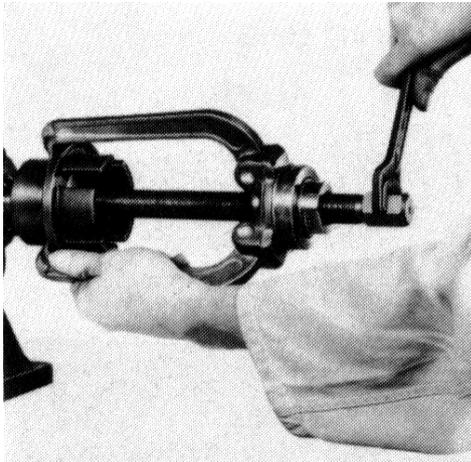

Fig. 47 - Wheel pulled
1. Pull off the half coupling with the aid of an extractor (see Figs. 47 and 48).